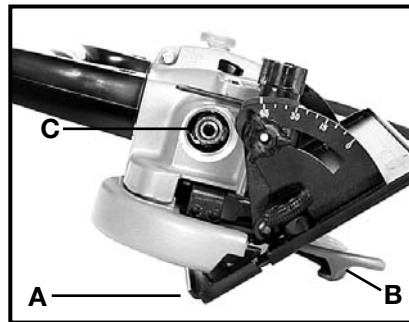

Fig. 13
7. Remove oil plug and seal. Set saw on a level surface so it rests on points (A) and (B) as shown in Fig. 13.
8. Gear lubricant should be level with the bottom of the hole (C) but should not run out. If this condition does not exist, add a small amount of lubricant (90 weight gear oil) furnished with your saw until it is even with the bottom of the hole.